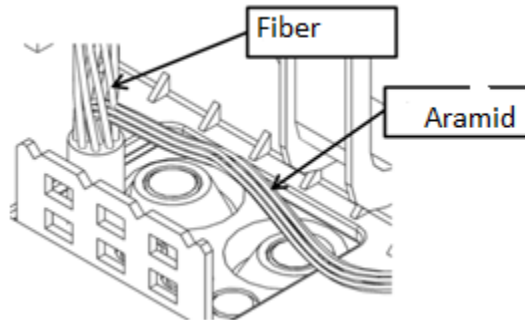

Figure 36
- 1.8.3 Separate aramid yarn (Fig.36);